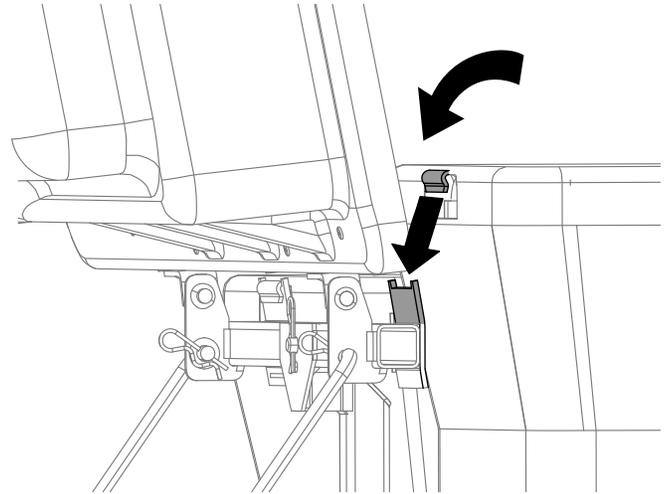

Figure 21
4. Lift the bagger top and install the bags by sliding the bag frame hooks onto the retaining brackets (Figure 21).